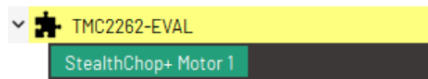

Figure 4. TMCL-IDE Wizard Pool Selection
3. A quick start guide to set up basic motor parameters, StealthChop+ and CoolStep+ is available. Click the entry as shown in Figure 4. The wizard provides an easy guide to set up the TMC2262 with the connected motor.